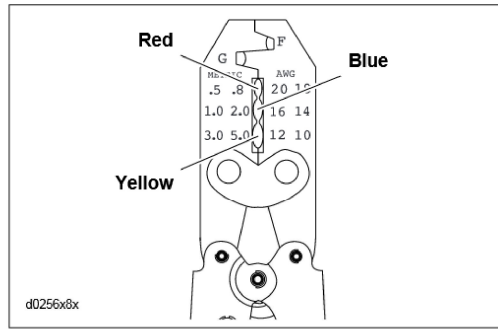

Figure 1-2. Packard Crimp Tool (Part No. HD-38125-8)
3. See Figure 1-2. Since the size of the connectors varies with the gauge of the wire, always use the correct components when creating sealed splices.
4. See Figure 1-2. Determine the correct dye or nest for the crimping operation. Match the color or gauge wire marked on the butt splice connector with the corresponding crimp cavity on the crimp tool.